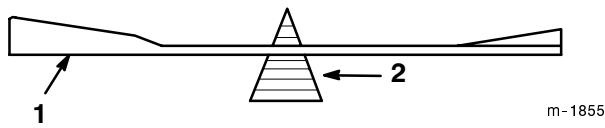

Figure 27
- Check the balance of the blade by putting it on a blade balancer (Fig. 27).